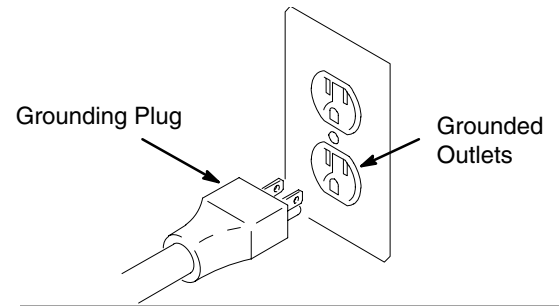

Fig. 2
1. All models require 60 Hz, 15A circuit with a 120 Vac grounding receptacle. Fig. 2.